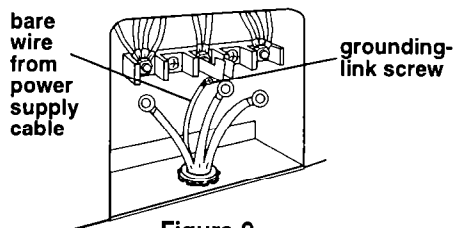

Figure 9
9. Connect the bare grounding wire from power supply cable to the range using the grounding-link screw. **The grounding wire must be attached first and must not contact any other terminal.** See Figure 9.